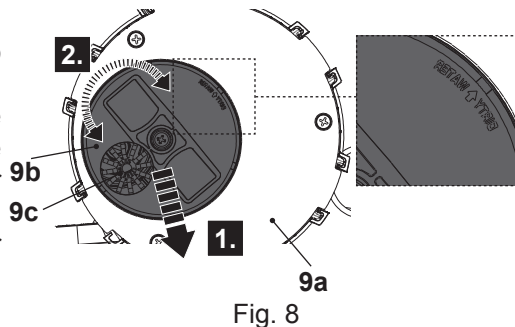

Fig. 8
1. Lift the function cover (9b) to make it disengaged, then turn it 180° (Fig. 8) to make the clear water inlet (9c) stay in the opposite position of the center (Fig. 8).